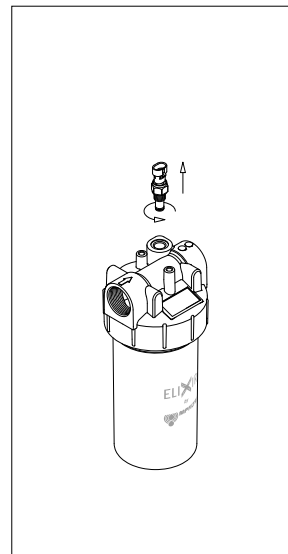

fig. 16
- (Fig. 16) Replace the O-rings of the indicator body